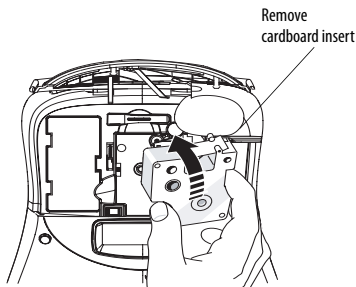

Figure 4
- i** The first time you use the label maker, remove the protective cardboard insert from between the print head and pinch roller. See Figure 4.